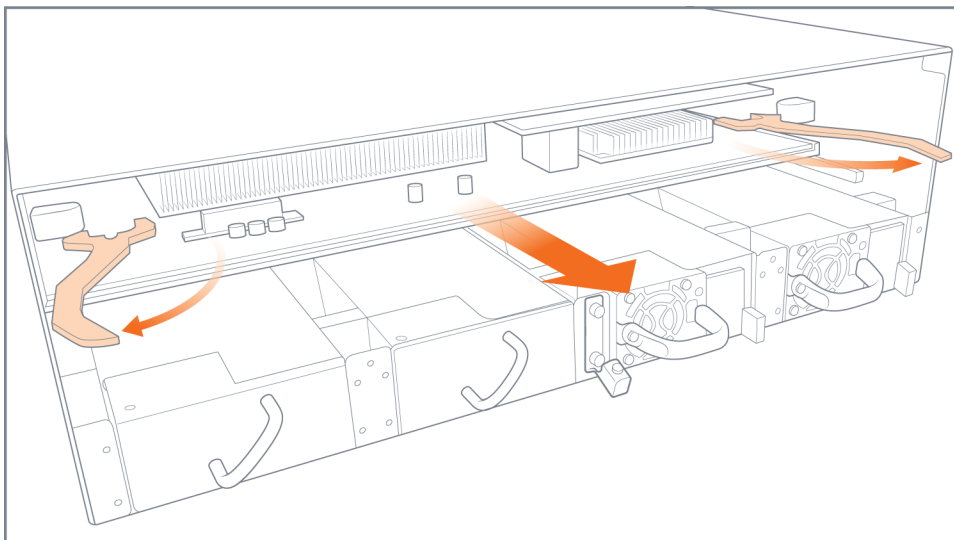

Figure 18 Control Card Ejector Handles
4. Swing both ejector handles outward as shown in Figure 18 Control Card Ejector Handles.